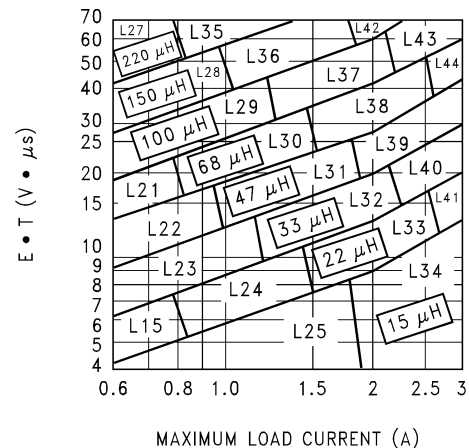

Figure 28. LM2599-ADJ
2. Inductor Selection (L₁) A. Calculate the inductor Volt • microsecond constant E • T (V • μs), from the following formula: $E \cdot T = (V_{IN} - V_{OUT} - V_{SAT}) \cdot \frac{V_{OUT} + V_D}{V_{IN} - V_{SAT} + V_D} \cdot \frac{1000}{150 \text{ kHz}} (V \cdot \mu s) \quad (4)$ where V_{SAT} = internal switch saturation voltage = 1.16V and V_D = diode forward voltage drop = 0.5V B. Use the E • T value from the previous formula and match it with the E • T number on the vertical axis of the Inductor Value Selection Guide shown in Figure 28. C. on the horizontal axis, select the maximum load current. D. Identify the inductance region intersected by the E • T value and the Maximum Load Current value. Each region is identified by an inductance value and an inductor code (LXX). E. Select an appropriate inductor from the four manufacturer's part numbers listed in Table 5.	2. Inductor Selection (L₁) A. Calculate the inductor Volt • microsecond constant (E • T), $E \cdot T = (28 - 20 - 1.16) \cdot \frac{20 + 0.5}{28 - 1.16 + 0.5} \cdot \frac{1000}{150} (V \cdot \mu s)$ $E \cdot T = (6.84) \cdot \frac{20.5}{27.34} \cdot 6.67 (V \cdot \mu s) = 34.2 (V \cdot \mu s) \quad (5)$ B. E • T = 34.2 (V • μs) C. I_{LOAD(max)} = 3A D. From the inductor value selection guide shown in Figure 28, the inductance region intersected by the 34 (V • μs) horizontal line and the 3A vertical line is 47 μH, and the inductor code is L39. E. From the table in Table 5, locate line L39, and select an inductor part number from the list of manufacturers part numbers.